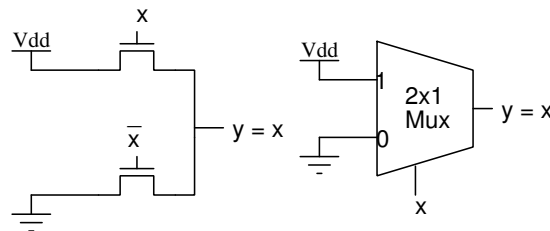

Figure 2
2. Use the 2×1 multiplexor (only) shown in Fig. 2 and implement the following logic function (*Hint: Use Shannon's expansion.*):